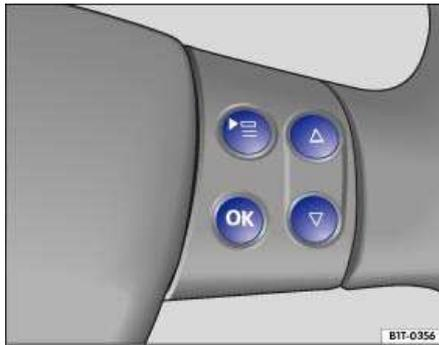

Fig. 12 Multi-function steering wheel: right side.
- After the **Please fasten seatbelt!** display goes out, press the  button (⇒ Fig. 12) until the **Settings** menu is displayed.
- Press the  button on the multi-function steering wheel⁷ ⇒ Fig. 12 until the **MFD** menu is displayed.
- With the ignition switched on, briefly press the **OK** button on the windshield wiper switch (⇒ Fig. 11 (A)) or multi-function steering wheel⁷ (⇒ Fig. 12) to toggle between memory 1 and memory 2.
You can switch between the following multi-function displays by pressing the rocker switch (⇒ Fig. 11 (B)) on the end of the windshield wiper switch, or the  and  buttons on the multi-function steering wheel⁷ ⇒ Fig. 12.
The speed warning can be set so that you will see and hear warnings when you reach a pre-set speed. For example, this setting could be used to alert you when you exceed the posted speed limit. Set the warning speed while driving at that speed. Briefly press the  button on the windshield wiper switch (⇒ Fig. 11 (A)) or on the multi-function steering wheel[†] ⇒ Fig. 12.
Within five seconds, you can change the set warning speed using the rocker switch ⇒ Fig. 11 (B) on the windshield wiper switch or the  and  buttons on the steering wheel ⇒ Fig. 12. Press the  button or wait 5 seconds so that the warning speed is saved and the warning is activated. If the warning speed is exceeded, a warning signal sounds and a text warning is displayed until speed drops about 2 mph (4 km/h) below the set speed.